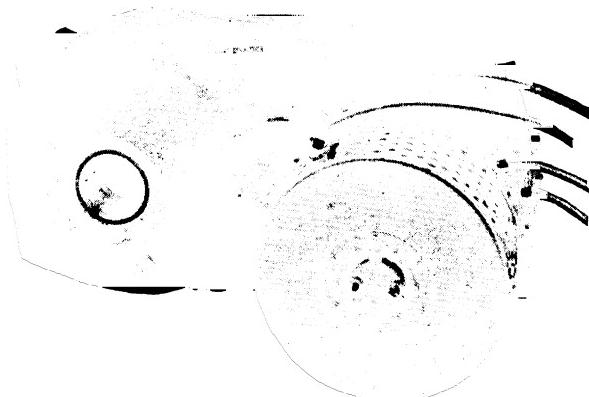

Fig. 3. G-E Direct-Current Railway Motor, Type GE-733,
**MOTOR-GEAR UNIT.** This powerful motor-gear unit, Fig. 3, is complete with double-reduction gears and gear box. The motor is insulated with Class B insulation. All gears are straddle-mounted and oil-lubricated. This sturdy, compact unit is built to withstand the hard usage and heavy loads encountered in railroad service, but limits maximum speed to 30 m.p.h. and slightly decreases the over-load capacity.